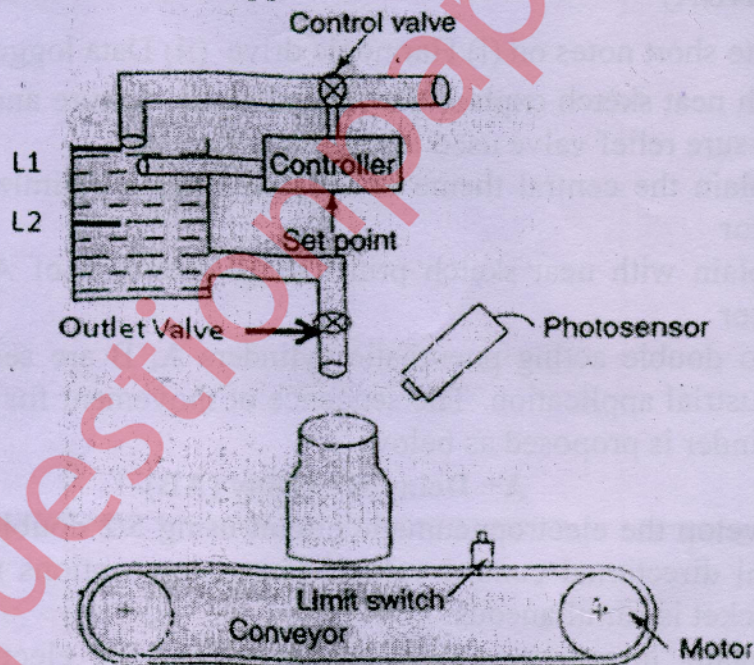

Figure 1
- Q.5(A) With schematic representation explain the mechatronic system typically used in robot for firefighting application (typically highlight the selection of motor, sensors and switches. Also discuss their interfacing. 10
- (B) Describe possible speed control strategies of A.C. Induction motors 05
- (C) Write a short note on servo amplifier for DC motors 05
- Q.6 (A) A process control system illustrated in Figure 1 is used to fill the bottle and convey the same. The outlet valve is opened to fill the bottle as when the limit switch senses the presence of the bottle and is closed automatically when the photosensor produces the signal as when the bottle is filled. The level of water in the tank is maintained through a control valve. Develop a PLC ladder logic diagram for this control application. 10